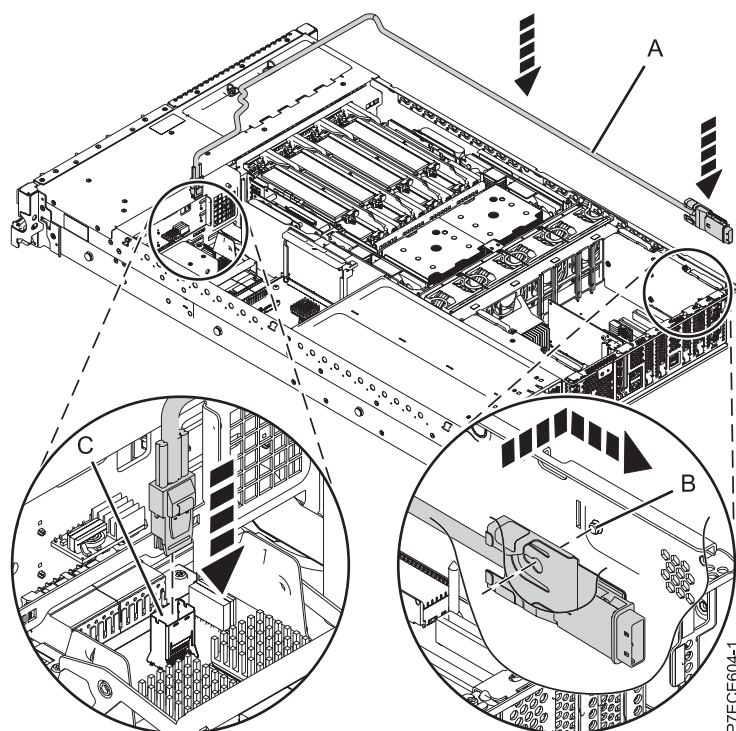

Figure 24. Installing the SAS cable
10. Connect the mini-SAS connector of the SAS cable to the internal SAS connection port (C) on the storage interposer until it snaps in place. See Figure 24 on page 41.
11. Route the cable (A) in front of the memory riser cage and along the channel in the side wall until the SAS port connector is near the opening on the rear of the chassis.
- Align and guide the slot in the bracket of the SAS port connector (B) over the guide pin in the chassis. Then slide the SAS port connector into the opening on the rear of the chassis until the tab on the bracket snaps in place.